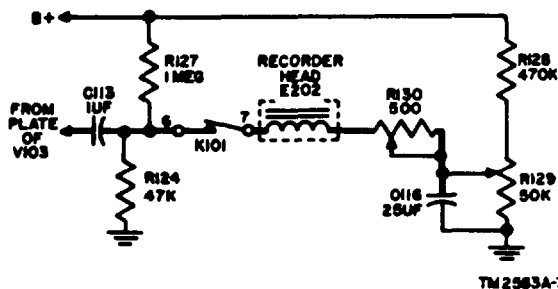

Figure 25. Noise balance circuit, simplified schematic diagram.
i. Noise Balance Circuit (fig. 25). The noise balance circuit cancels out the effects of residual magnetic bias in the recorder head and thus lowers the noise level of the recorded information. A small dc voltage, impressed across the circuit, improves the linearity of the recorded signal by suppressing the third harmonic distortion. The circuit consists of resistors R128 and R129 and capacitor C116 as one side, and resistors R127 and R124 as the other side. Because positive voltages of differing magnitudes are applied across the recorder head, a current will flow through the recorder head to cancel the effects of any residual magnetic bias. Resistor R129 is used to set the level and polarity of current through the recorder head.